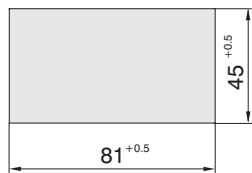

Fig. 3
- cut a window in the board as shown in fig. 3